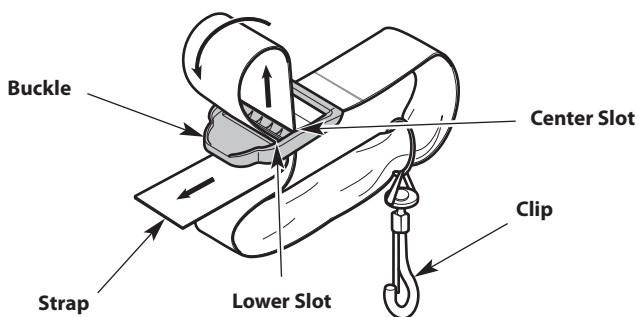

Fig. 6
1. Push the strap up through the center slot in the buckle (Fig. 6).
2. Bend the strap over and push it down through the lower slot in the buckle (Fig. 6).